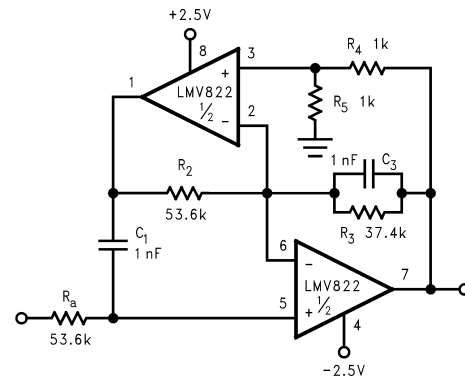
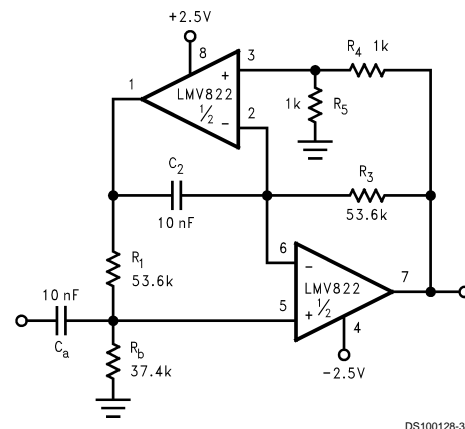
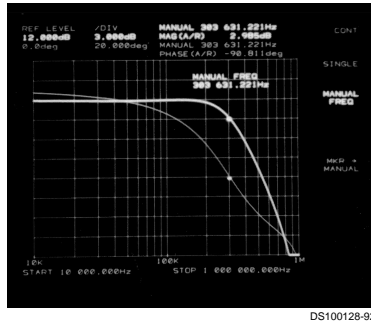

FIGURE 10. Dual Amplifier, 3 kHz Low-Pass Active Filter with a Butterworth Response and a Pass Band Gain of Times Two
FIGURE 11. Dual Amplifier, 300 Hz High-Pass Active Filter with a Butterworth Response and a Pass Band Gain of Times Two
FIGURE 12. 300 kHz, Low-Pass Filter, Butterworth Response as Measured by the HP3577A Network Analyzer
The LMV822/24 bring economy and performance to DAAFs. The low-pass and the high-pass filters of Figure 10 and Figure 11 (respectively), offer one key feature: excellent sensitivity performance. Good sensitivity is when deviations in component values cause relatively small deviations in a filter's parameter such as cutoff frequency ( $f_c$ ). Single amplifier active filters like the Sallen-Key provide relatively poor sensitivity performance that sometimes cause problems for high production runs; their parameters are much more likely to deviate out of specification than a DAAF would. The DAAFs of Figure 10 and Figure 11 are well suited for high volume production.
Single Amplifier versions require a large open-loop to closed-loop gain ratio - approximately 50 to 1, at the  $F_c$  of the filter response. Figure 12 shows an impressive photograph of a network analyzer measurement (hp3577A). The measurement was taken from a 300kHz version of Figure 10. At 300 kHz, the open-loop to closed-loop gain ratio @  $F_c$  is about 5 to 1. This is 10 times lower than the 50 to 1 "rule of thumb" for Single Amplifier Active Filters.
In addition to performance, DAAFs are relatively easy to design and implement. The design equations for the low-pass and high-pass DAAFs are shown below. The first two equations calculate the  $F_c$  and the circuit Quality Factor (Q) for the LPF (Figure 10). The second two equations calculate the  $F_c$  and Q for the HPF (Figure 11).
To simplify the design process, certain components are set equal to each other. Refer to Figure 10 and Figure 11. These equal component values help to simplify the design equations as follows:
To illustrate the design process/implementation, a 3 kHz, Butterworth response, low-pass filter DAAF (Figure 10) is designed as follows: